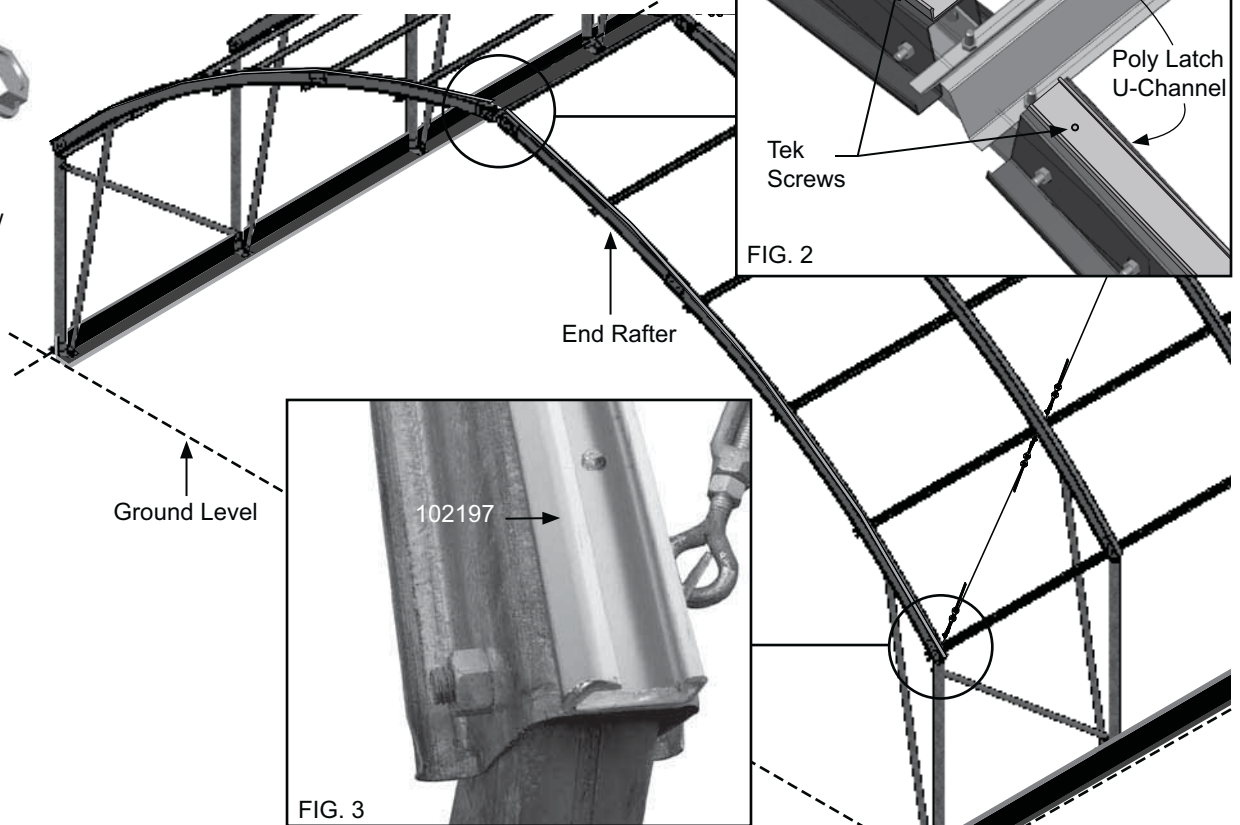

FIG. 3
3. Continue to attach the single U-channel sections and work toward the bottom of the end rafter. Cut the last section of single U-channel to the required length so that it is flush with the end rafter as shown in Fig. 3.